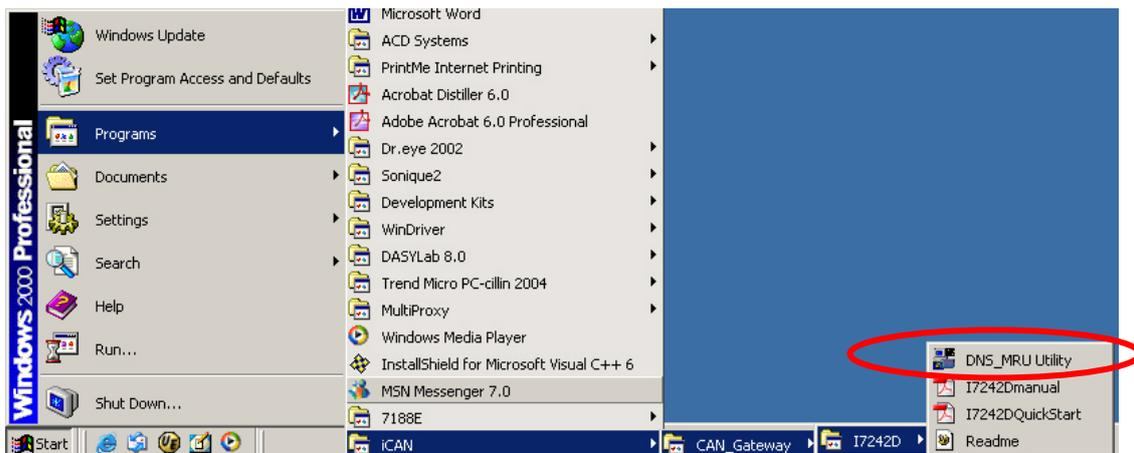

Figure 6-6. You can find “DNS_MRU Utility“ at “Start” in the task bar
Step 7: After finishing the installation of the DNS_MRU Utility, users can find DNS_MRU Utility as shown in the figure 6-6.